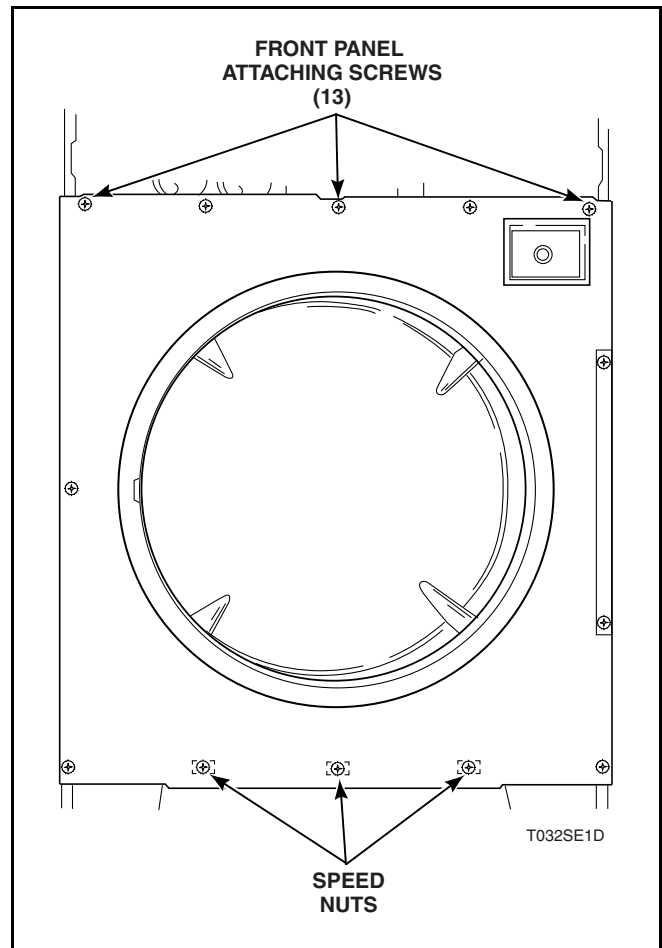

Figure 24
- Support front panel and remove screws (and three speed nuts) holding front panel to tumbler cabinet. Refer to *Figure 24*.